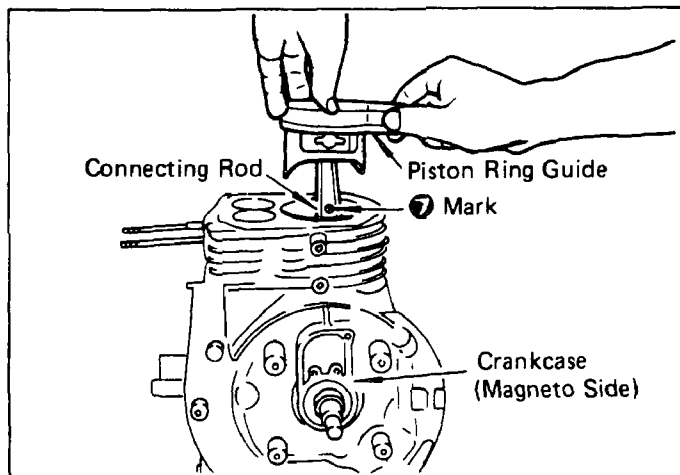

Fig. 30
- 3) When installing the connecting rod into place, hold piston rings with the ring guide as shown in Fig. 30 (if no ring guide is available, keep pressing the piston rings with finger tips and gently strike the top of the piston with a wooden piece or the like to push it in), and check that the symbol ⑦ or mark MA on the connecting rod is in the direction of the flywheel magneto.